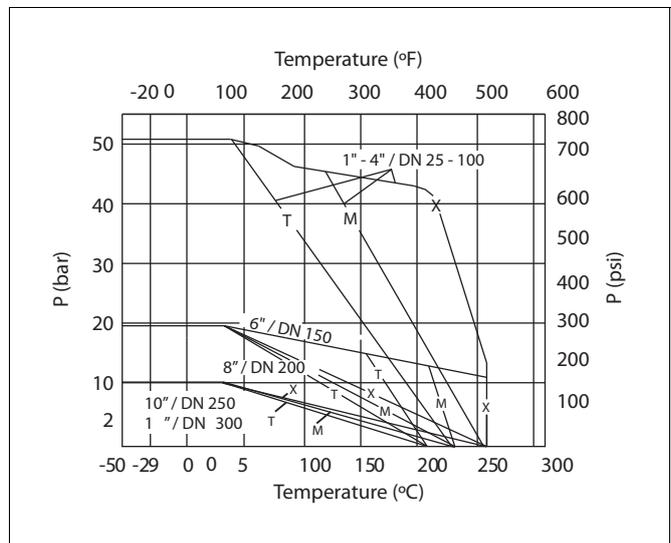

Fig. 8 Pressure differentials permitted in operations (soft-seated valves)
- Max. pressure differential: see Figs. 8 and 9